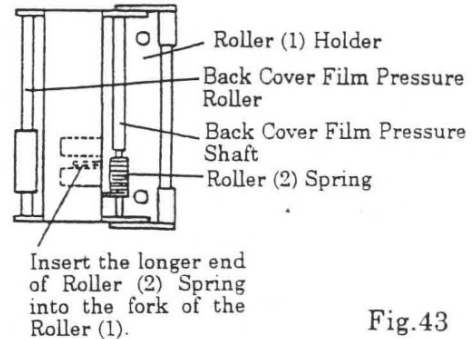

Fig.43
- b) Insert the longer end of the Roller (2) Spring (1AQ19610) into the fork of the Roller (1) Holder. (See Fig. 43).